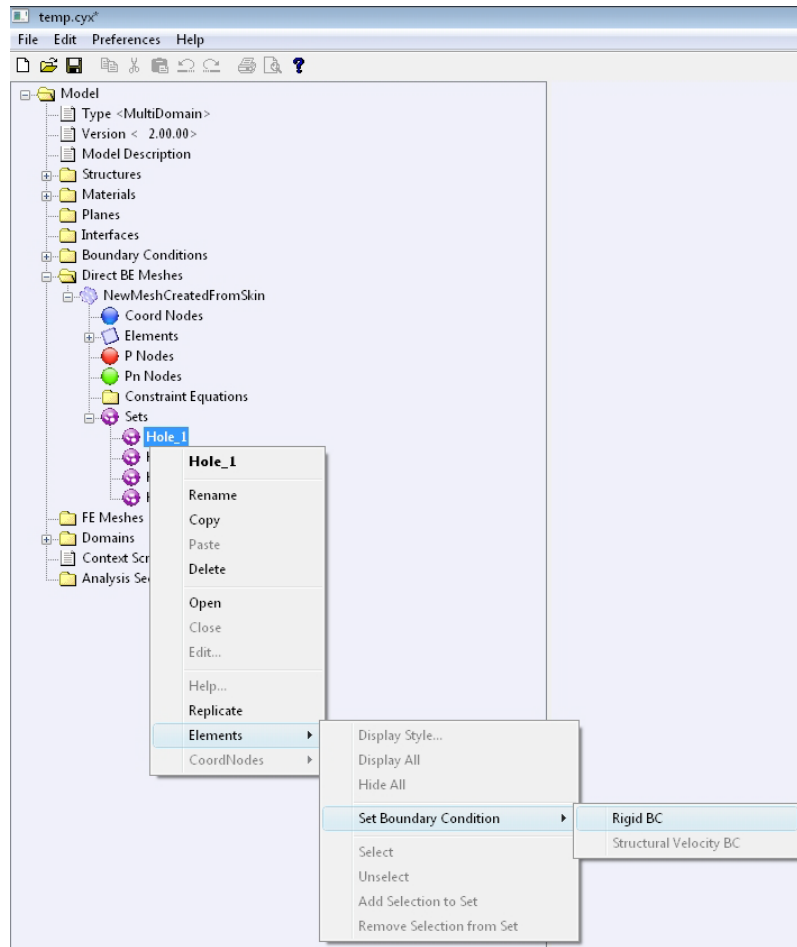

Figure A.19 Apply boundary conditions through sets.
- Right-click on **Holes_1** and select: **Elements** → **Set Boundary Condition** → **Rigid BC** as shown in Figure A.19.